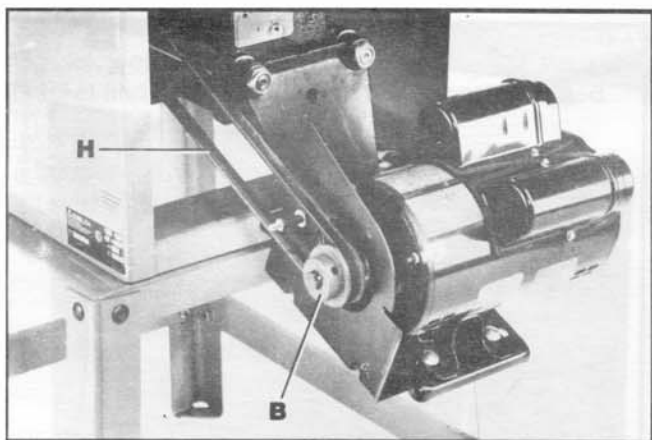

Fig. 15
7. Lift up on the motor and assemble the drive belt (H) Fig. 15, to the arbor pulley and motor pulley (B). The weight of the motor will provide the correct belt tension.